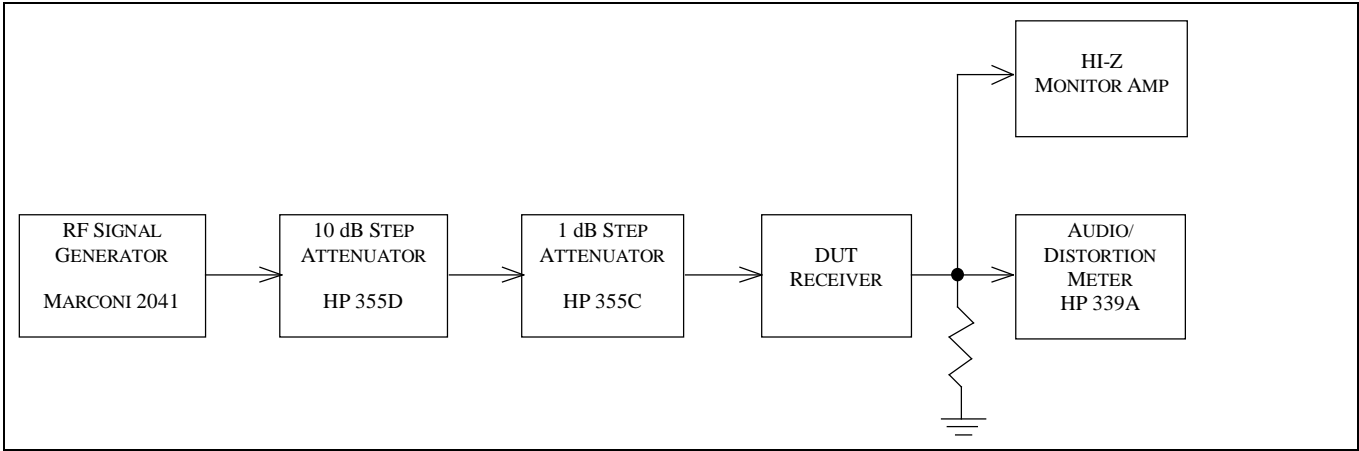

Fig. 5-5 — IFAnd Image Test Hook-up
5.5.2 Test hook-up (See Fig. 5-5)